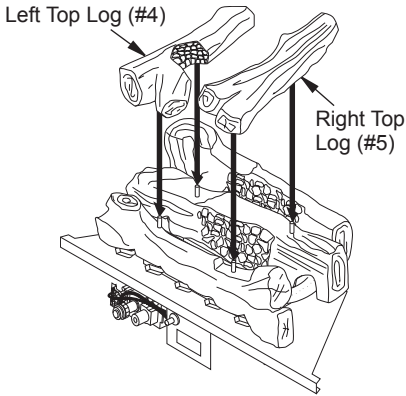

Figure 28 - Installing Top Logs
4. Place left top log on left pins on logs #2 and #3, resting it on log #1 (see Figure 28, page 18).
5. Place right top log on right pins on logs #2 and #3 (see Figure 28, page 18).